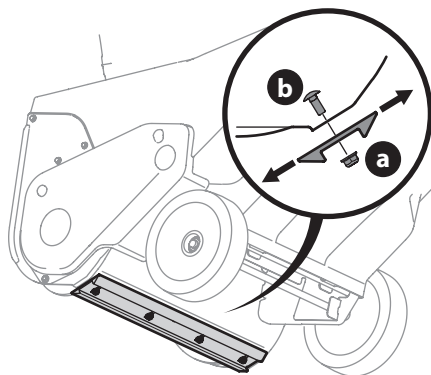

Figure 26
3. Loosen the four flange lock nuts (a) and carriage screws (b) which secure the shave plate to the housing (Figure 26). Move the shave plate to the desired position and retighten the flange lock nuts (a) and carriage screws (b) securely.
4. Remove the four carriage screws (b) and flange lock nuts (a) which attach it to the snow blower housing (Figure 26).